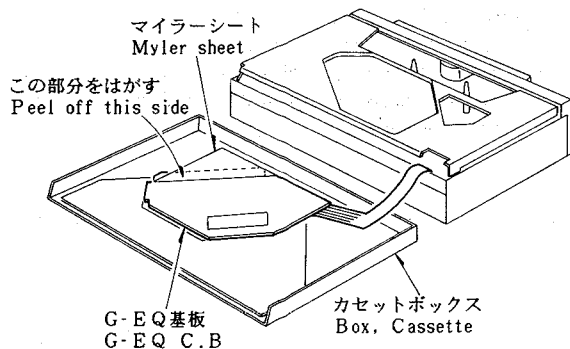

Fig. 2
2) Tear off the mylar sheet and separate the G-EQ circuit board and cassette lid. (See Figure 2, 3)